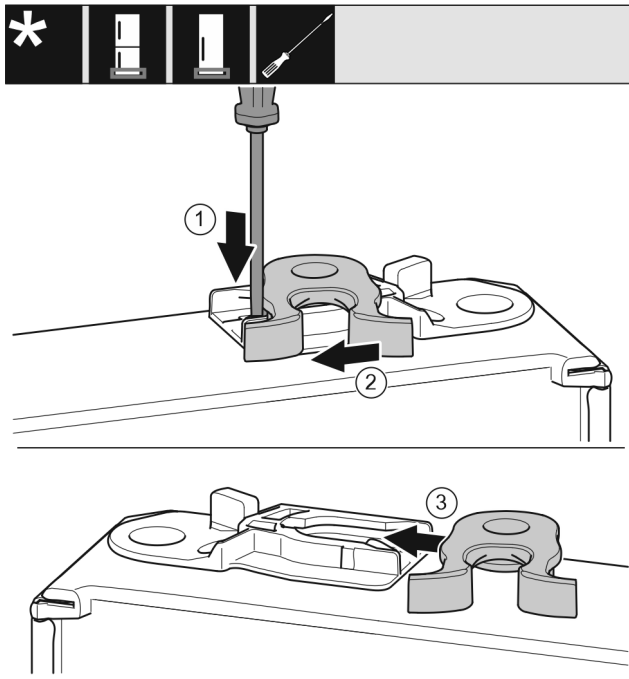

Fig. 16
- ▶ Push the lug downward with a slotted screwdriver. Fig. 16 (1)
- ▶ Pull the door latch out of the guide. Fig. 16 (2)
- ▶ Push the door latch into the guide on the other side. Fig. 16 (3)